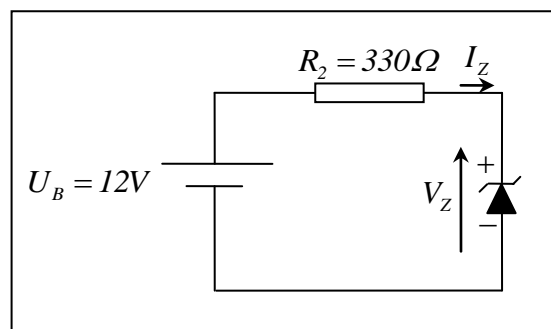

Figure 3
These two points $A(V_{Z1}, I_{Z1})$, and $B(V_{Z2}, I_{Z2})$ can be determined from Equation 3 and Figure 3. Plotting points A and B and tracing the line connecting the two points gives the load line.
- Construct the load line for the circuit shown in Figure 3 in the same sheet of graph paper and label the quiescent point (the quiescent point is the intersection between the I-V characteristics of Zener diode and the load line)